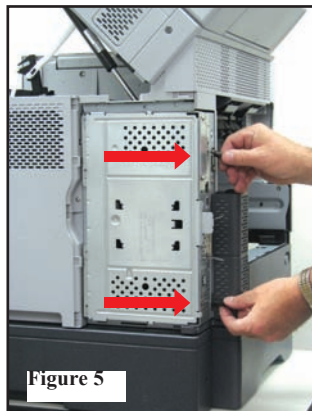

Figure 5
9. Remove the formatter by removing the thumb screws and pulling out to the left. (Figure 5)